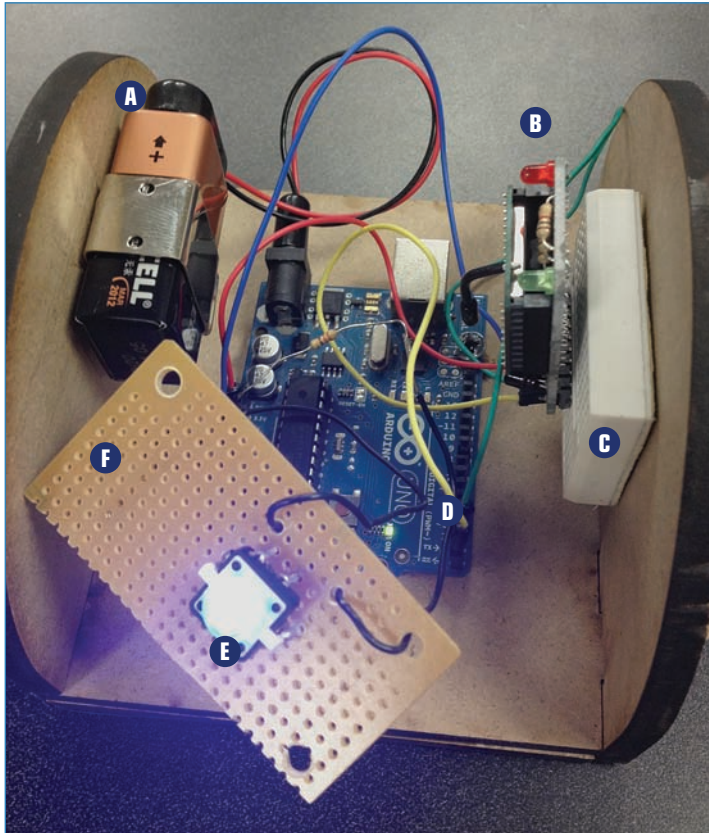

FIGURE 4.10 The button unit before the acrylic is added.
Let's begin with the button unit (see Figure 4.10), which consists of the following components:
4. Attach the completed electronics as shown earlier in Figures 4.10 and 4.12. Use the #4-40 bolts for the Arduinos and hot glue for the buzzer, battery pack, and mini breadboards.